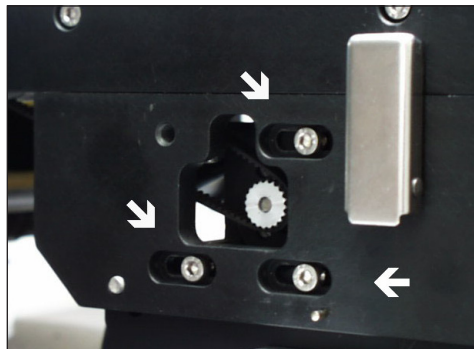

Fig. 30: Motor fixation of the infeed or outfeed conveyor
1. Loosen the three M4 hexagon screws of the motor fixation (see Figure 30) at the infeed or outfeed conveyor **slightly**.